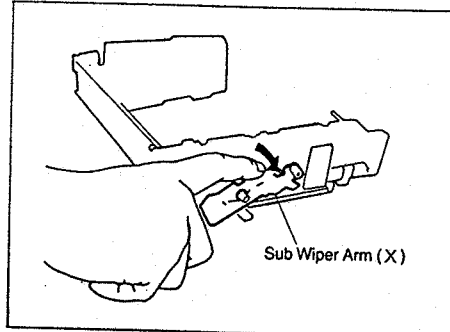

FIG. D21
5. Press the sub wiper arm (X) to direction indicated by arrow so that the sub wiper arm (R) comes to cassette down position completely as shown in FIG. D21, and keep it.